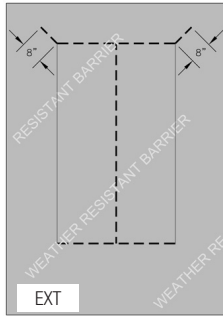

FIG. 3
- G) Make an "I-Cut" in the weather-resistant barrier (WRB). Begin with a horizontal cut along the bottom and the top of the rough opening. Then make a vertical cut in the center from top to bottom. (Fig. 3)
- H) From the exterior, make two diagonal cuts at the top of the "I-Cut" as shown to form a flap. (Fig. 3)